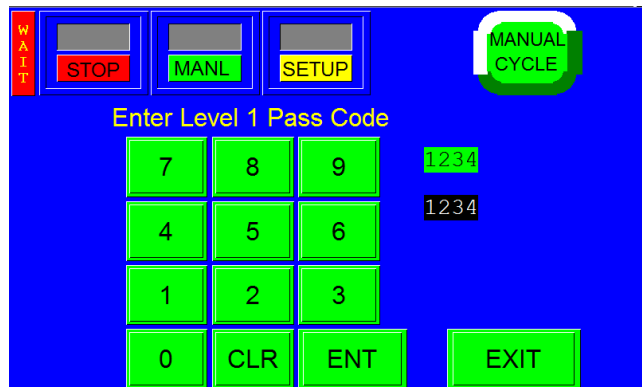

Figure 3-54
1. **Level 1:** This is the highest-level pass code. It prevents operators from accessing the Technical Assistance functions of the machine. The default pass code, when shipped from the factory, is 1001. To change this code, press the **Level 1 PW** button on the Password Setup Screen, enter a new code on the numeric keypad, and press the **ENT** button. See Figure 3-54.